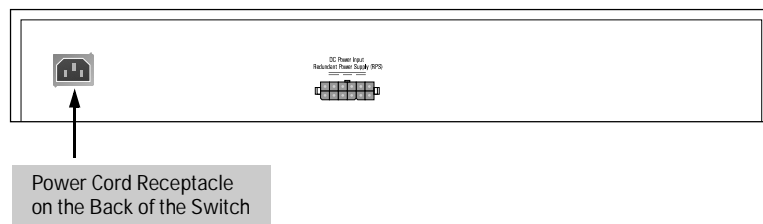

Figure 1-13. Plugging in the Power Cord
**If you use a power cord that plugs into the power cord receptacle (figure 1-13), do not use the optional redundant power supply (RPS).**